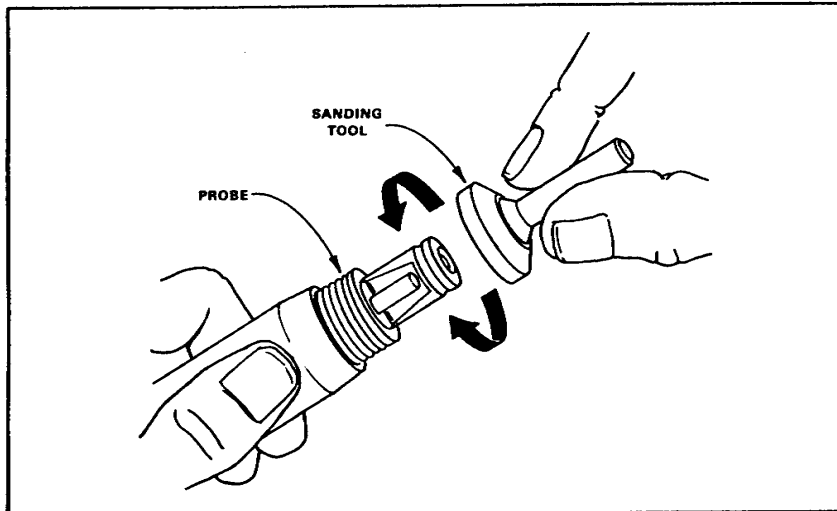

Figure 5 - Sanding the probe surface
- C. Hold the tool's abrasive face uniformly against the probe's sensing surface (see Figure 5) and slowly twist the tool in a circular fashion until all traces of the pencil mark are erased.